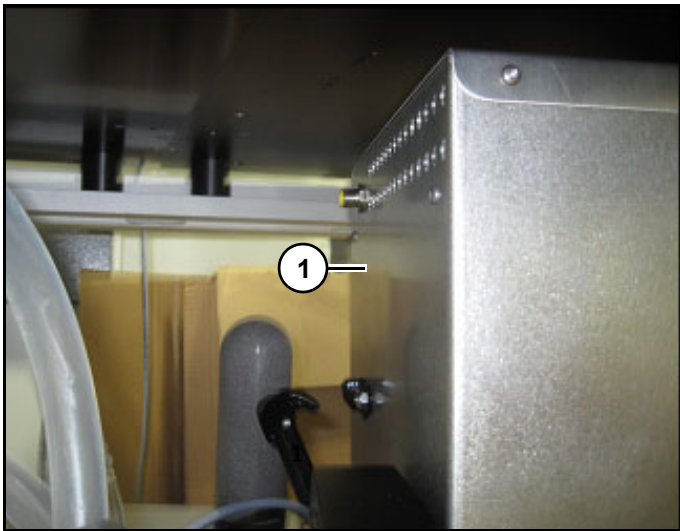

Figure 16
3. Lift and slide filter box (1) (Figure 16) forward away from tank.